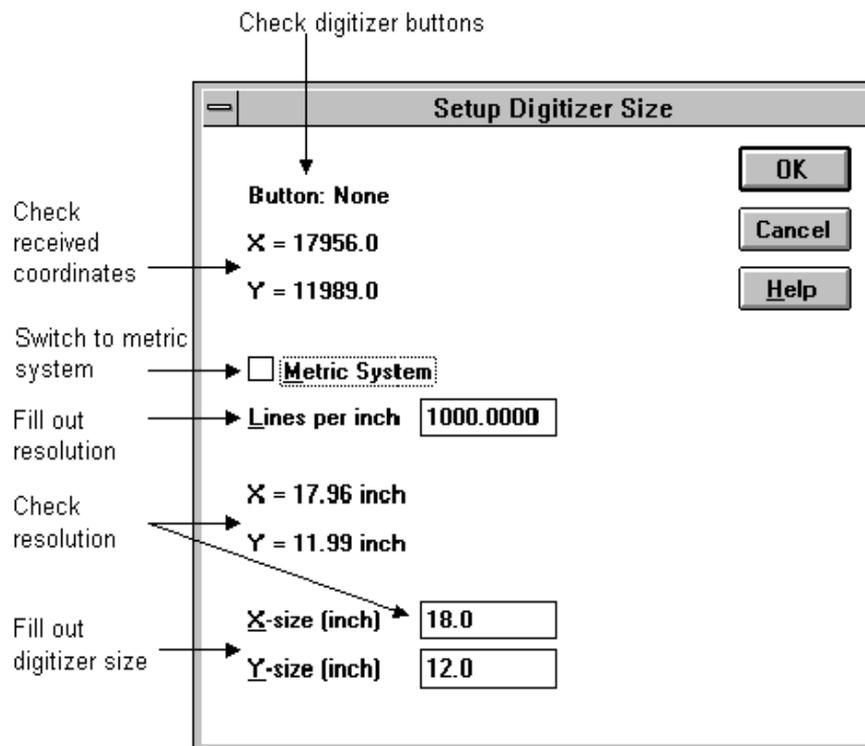

Fig. 1. Setup Digitizer Size dialog box.
11. In the upper part of the **Setup Digitizer Size** dialog box (see figure 1): check if all buttons work, and check whether the X-values increase by moving the digitizer cursor to the right, and Y-values increase by moving the cursor up. If the communication is not correct, press CANCEL to return to the previous dialog box and change until the communication is correct. When you have good communication, fill out the resolution (lines per inch or per mm) that the digitizer is using and the size of the digitizer. Remember to enter the same resolution, as you have configured for your digitizer. The resolution can be checked by locating the digitizer cursor in the upper right corner of the tablet. The received X and Y coordinates (in mm or inch) mentioned under the **Lines per mm** (or inch) option should now be equal to the filled out digitizer size (at the bottom of the dialog box). If the resolution is not correctly specified, an incorrect scale will be displayed during Map Referencing. Check the feedback you obtain in the lower part of the dialog box and make changes until satisfied.